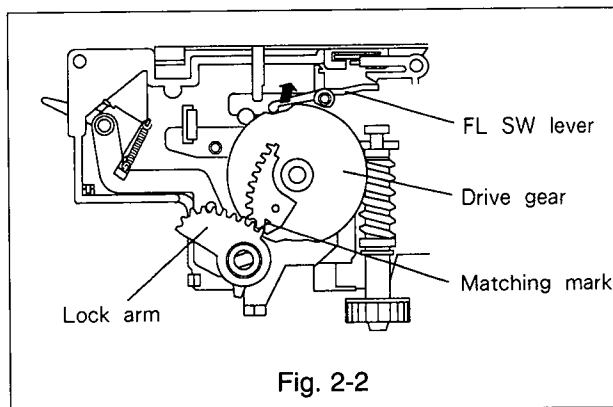

Fig. 2-2
- Turn the FL SW lever clockwise to separate the FL SW lever from the drive gear, and pull the lock arm and drive gear to remove them from the shaft as shown in Fig. 2-2.
- Install the drive gear on the shaft as shown in Fig. 2-2.
- Line the matching mark on the drive gear and beginning of gear section on the lock arm as shown in Fig. 2-2, and install the lock arm.